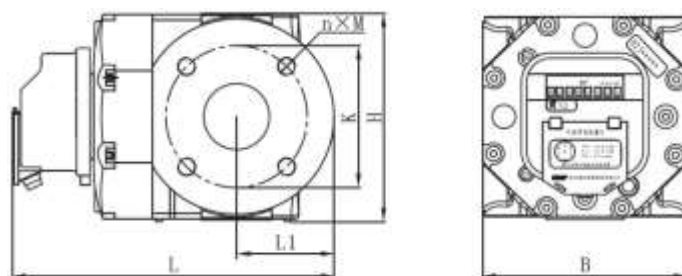

Figure5
5.1 The outline structure of the meter is shown in Figure 5,